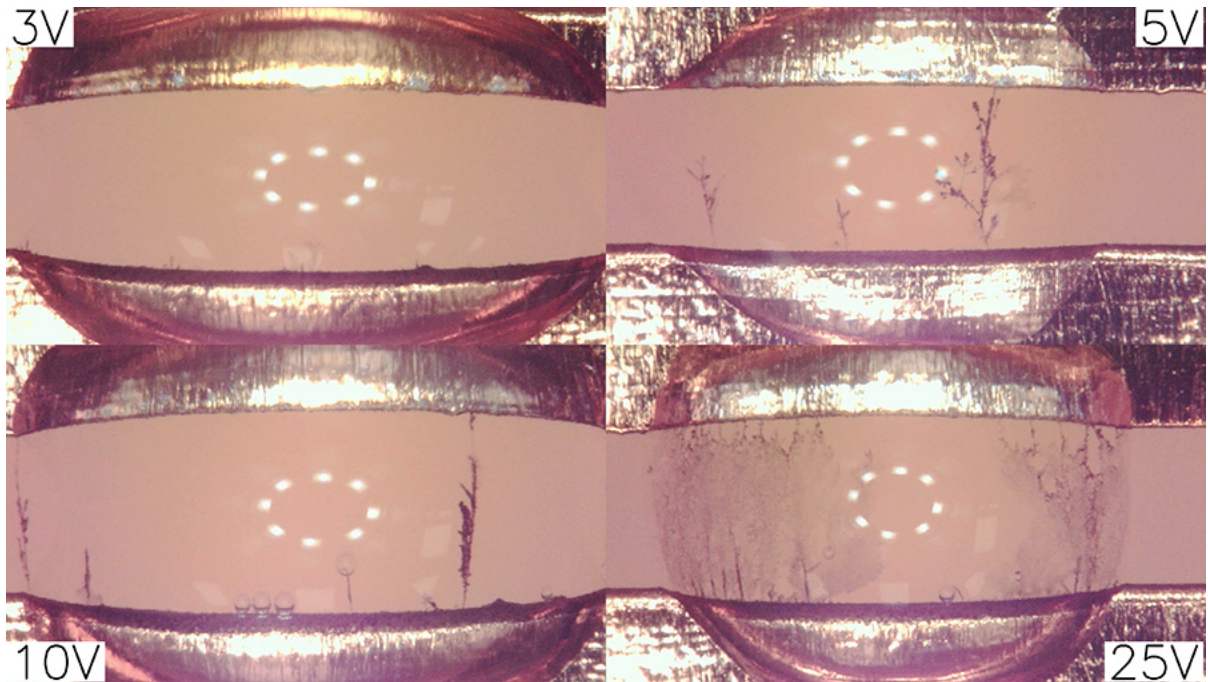
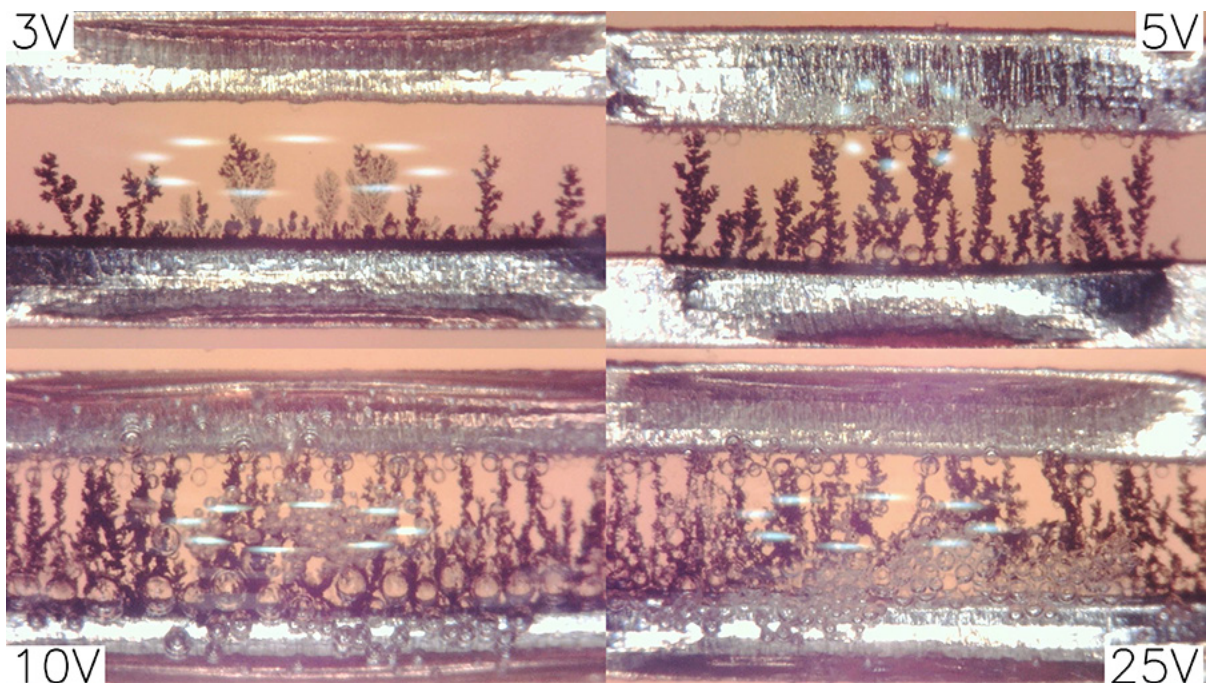

Figure 3. Dendrites growing on clean substrates after 150 sec. at the stated voltages.
Figure 4. Dendrites growing on the contaminated boards after only 60 sec.
**Figure 3** shows dendrites growing on clean substrates after 150 sec. at the stated voltages. Compared to dendrites grown on the contaminated boards after only 60 sec., a significant difference is seen (**Figure 4**).